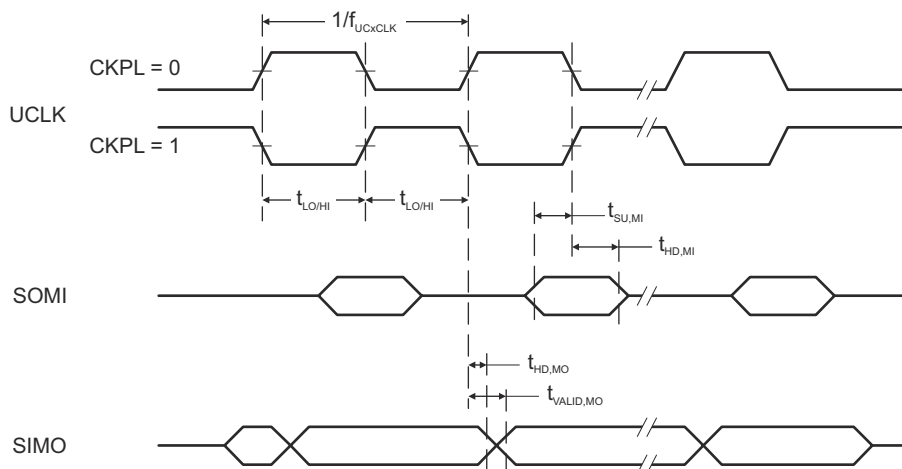
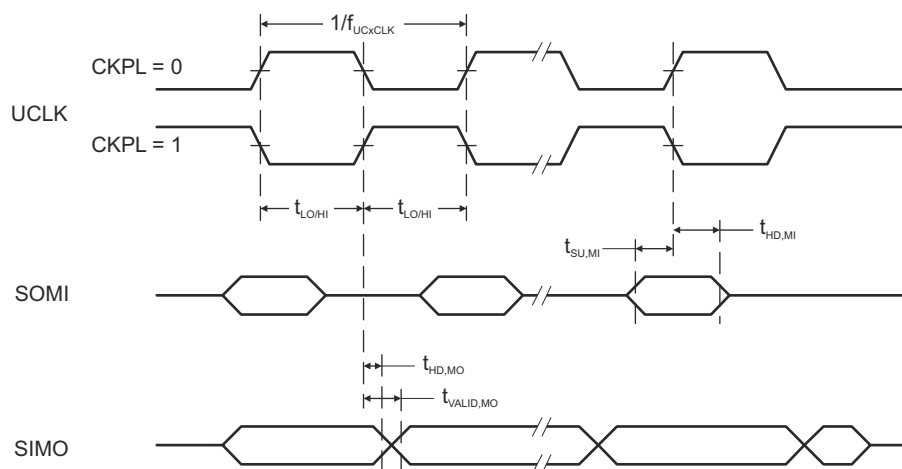

图 8-11. SPI Master Mode, CKPH = 0
图 8-12. SPI Master Mode, CKPH = 1
(see 图 8-11 and 图 8-12)
- (2) Specifies the time to drive the next valid data to the SIMO output after the output changing UCLK clock edge. See the timing diagrams in 图 8-11 and 图 8-12.
- (3) Specifies how long data on the SIMO output is valid after the output changing UCLK clock edge. Negative values indicate that the data on the SIMO output can become invalid before the output changing clock edge observed on UCLK. See the timing diagrams in 图 8-11 and 图 8-12.